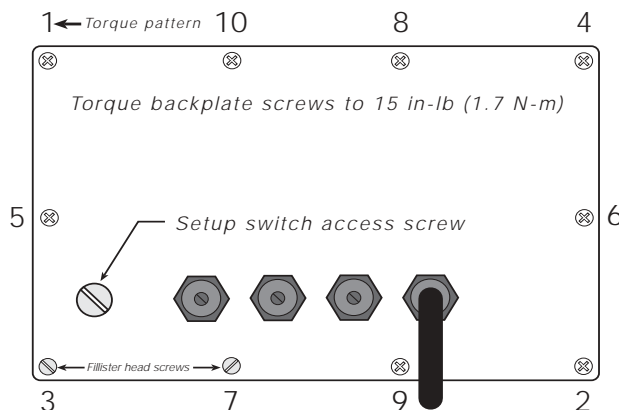

Figure 2-4. IQ plus 350 Enclosure Backplate
- Two 8-32NC x 7/16 fillister head screws (PN 30623). These screws occupy the holes below and on either side of the setup screw on the indicator backplate (see Figure 2-4 on page 7).
Once cabling is complete, position the backplate over the enclosure and reinstall the backplate screws. Use the torque pattern shown in Figure 2-4 to prevent distorting the backplate gasket. Torque screws to 15 in-lb (1.7 N-m).